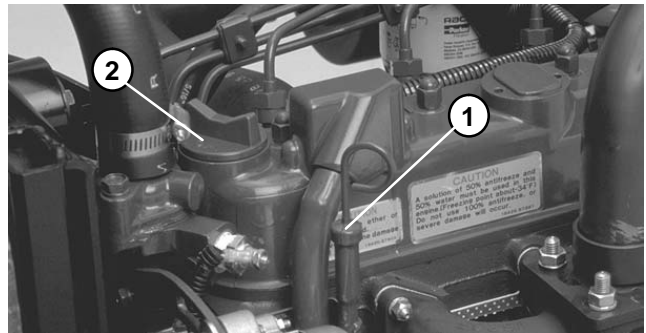
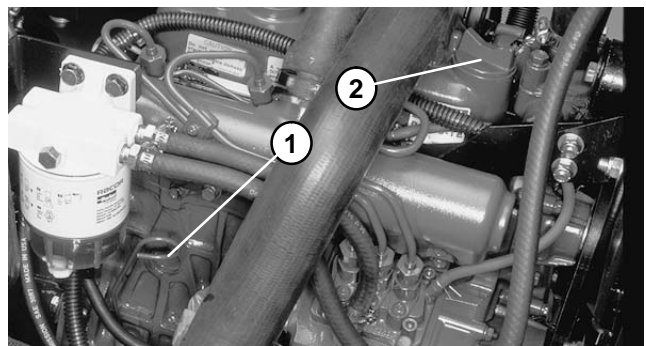

Figure 1
Figure 2
2. Remove, wipe clean, and reinstall dipstick. Remove dipstick, and check oil level on dipstick. Oil level should be up to FULL mark (Reelmaster 5200 - Fig. 1), (Reelmaster 5400 - Fig. 2).